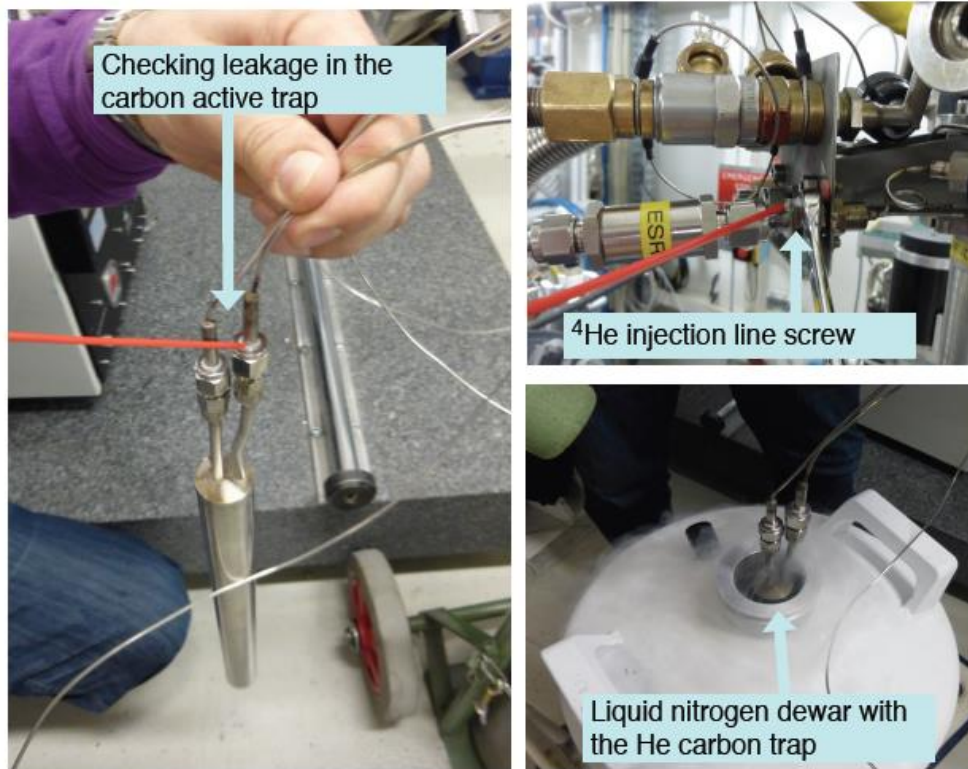

Fig. 4 Helium injection line setup.
- Slowly place the carbon trap into the filled liquid nitrogen dewar, Fig. 4, and leave the ^4He gas to circulate for an additional minute.
Every 2 weeks, or in the case of a long shutdown, it is necessary to clean the cold carbon trap (see fig 4). The operation is as follows: